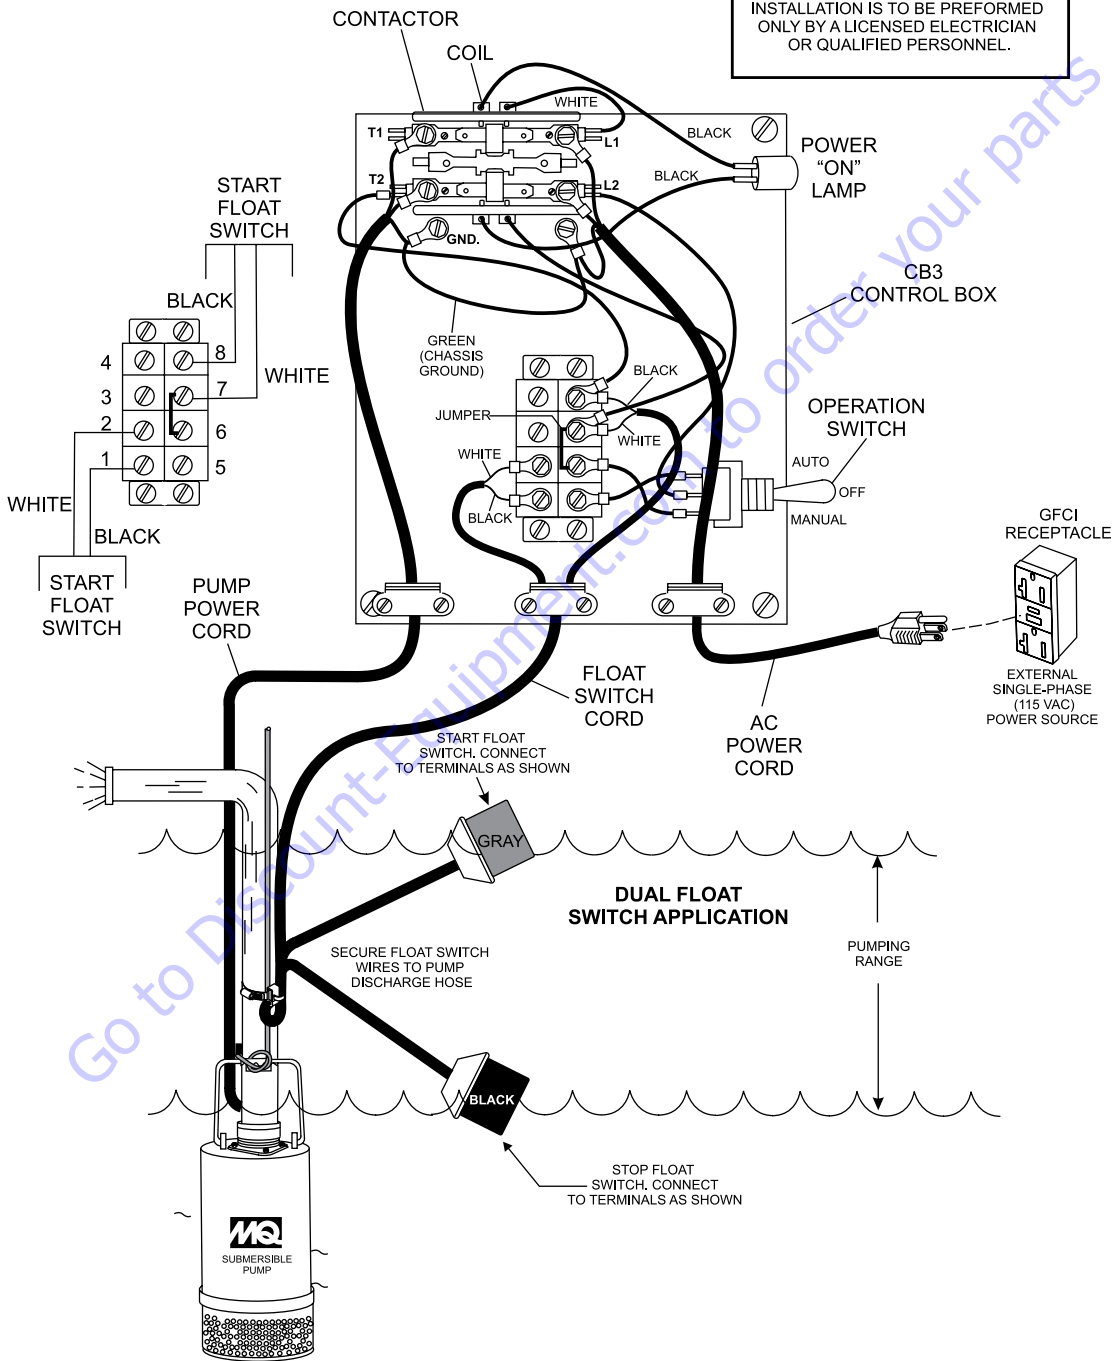
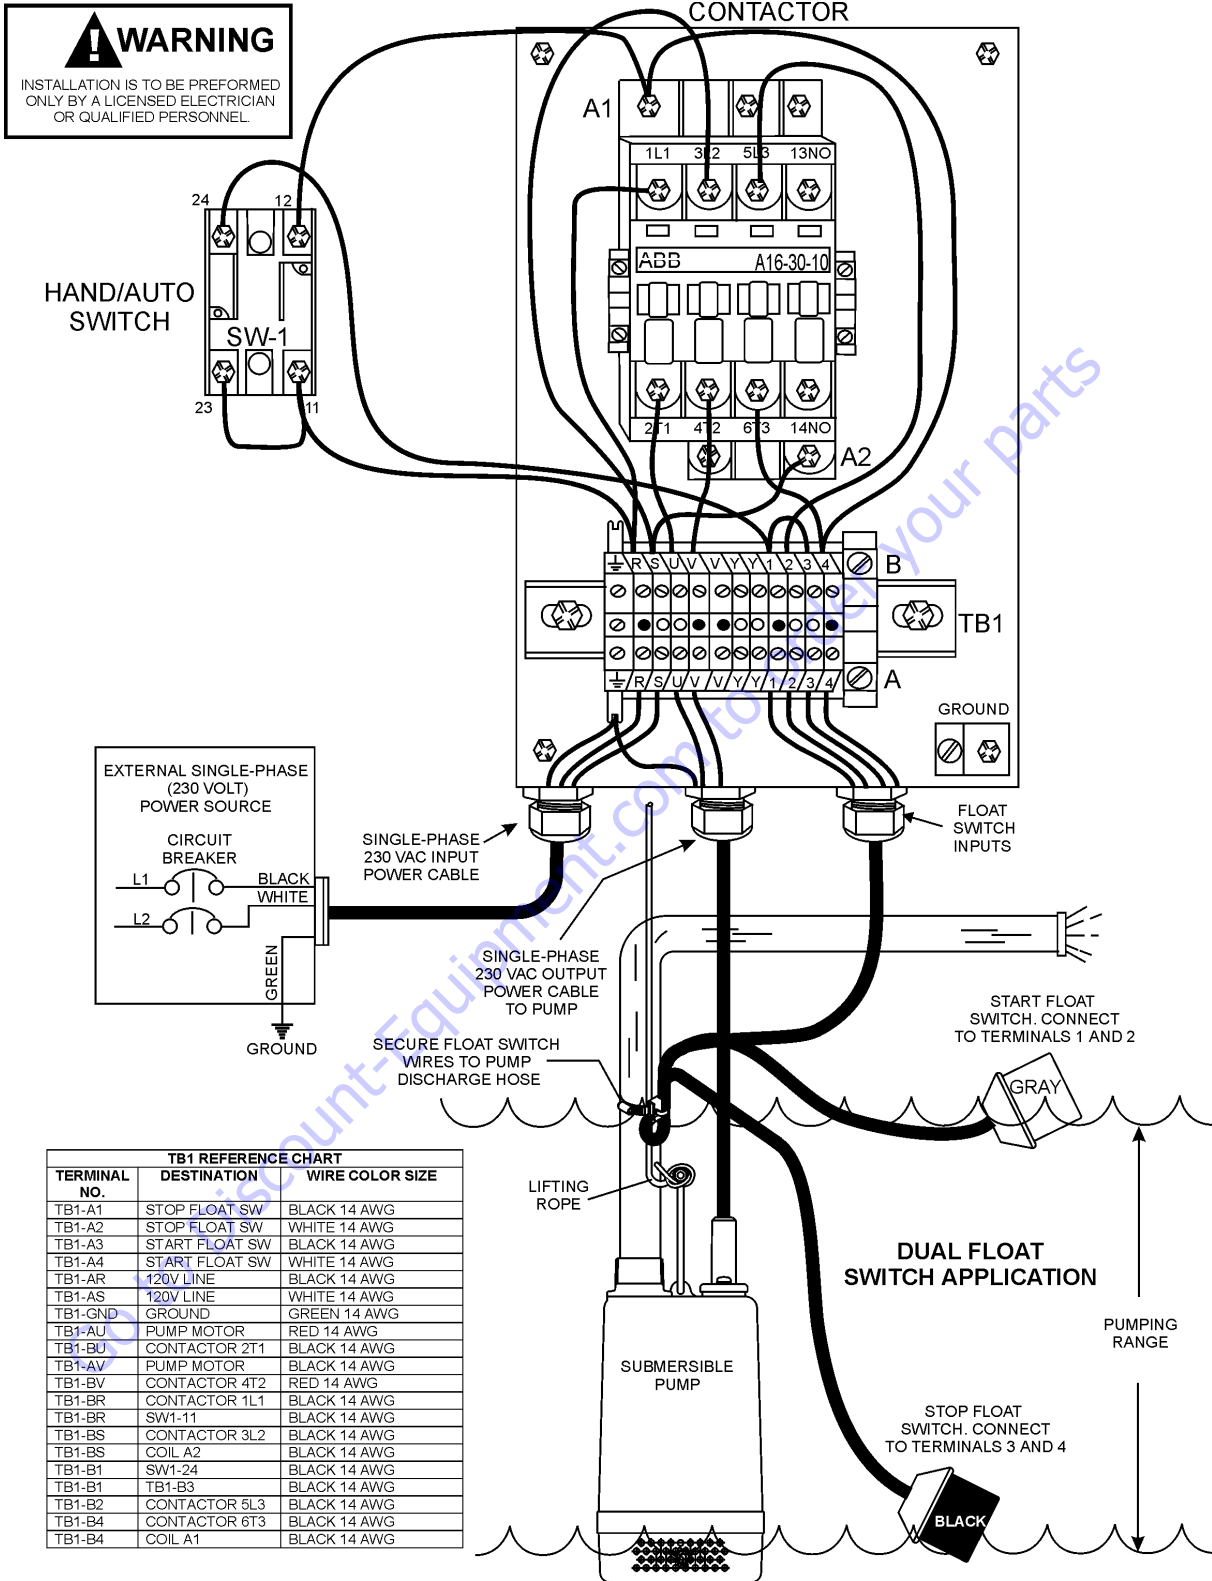

Figure 7. CB3 Control Box and Dual Float Switch Application Diagram
Figure 8. CB6 Control Box and Dual Float Switch Application Diagram
1. Remove the float switch input connector housing, then route the float switch wires through the cable gland on the control box. Attach the wires of the float switch to the terminal block as indicated by Table 5, Figure 7 and Figure 8.
3. Connect the AC power cord to the contactor as shown in Figure 7 and Table 6.
3. Connect the pump power cord to the contactor as shown in Figure 7 and Table 7.